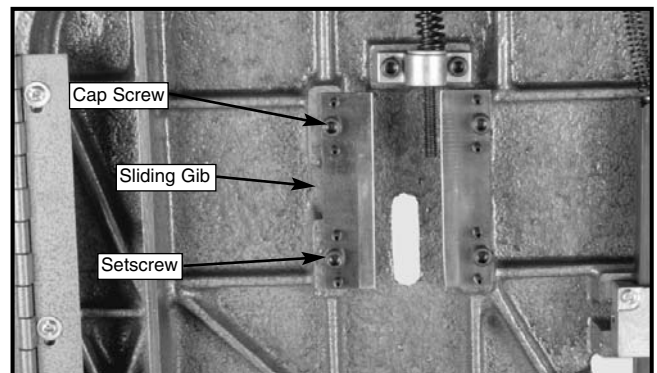

Figure 7. Upper wheel adjustments, wheel removed for clarity.
5. Loosen the four cap screws (#10) that secure the two sliding gibs (#9) to the body behind the upper wheel. **Figure 7.**